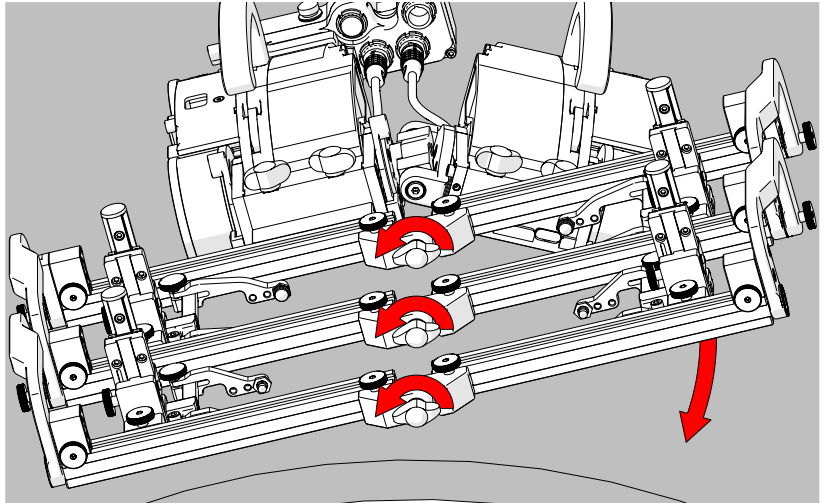

Fig. 267 - Loosen pivot wing knobs
1. Loosen the pivot wing knobs at the centre of the frame system (Fig. 267). Lower the left side of the frame system to align with the tangent of the scan surface. Tighten the pivot wing knobs.